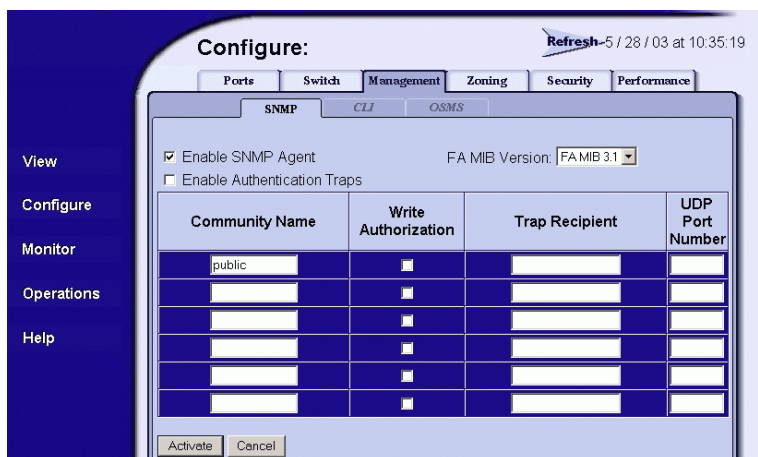

Figure 2-72 Configure Panel (Management Page with SNMP Tab)
2. At the *Configure* panel, click the *Management* tab. The *Management* page displays with the *SNMP* tab selected (Figure 2-72).